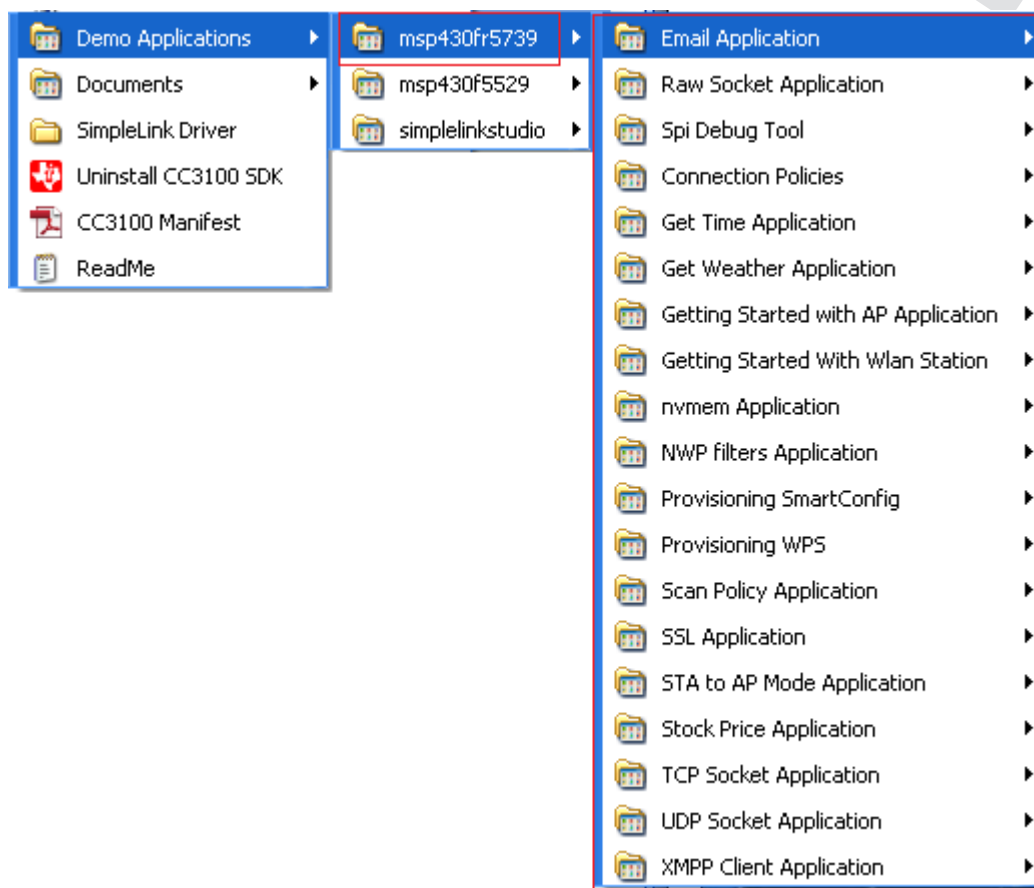

Figure 4. Demo Applications
3. *Start* → *All Programs* → *Texas Instruments* → *CC3100 SDK* → *Demo Applications* has a list of all supported platforms and each platform has a list of all the supported applications (see Figure 4).